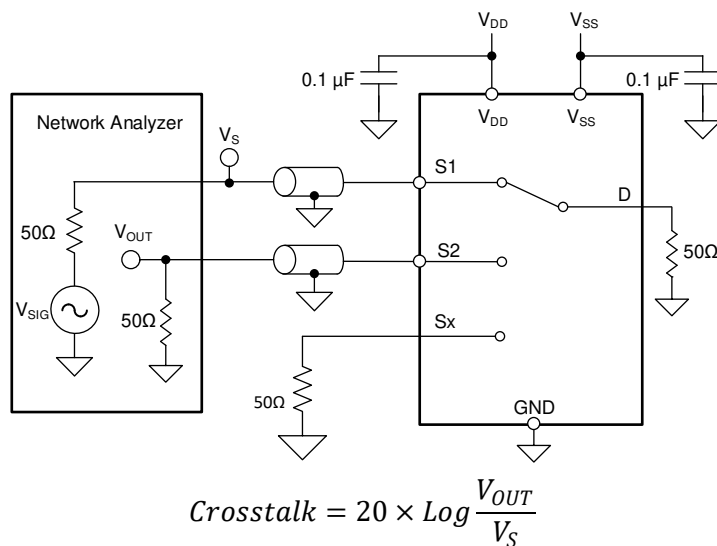

Figure 7-11. Crosstalk Measurement Setup
Crosstalk is defined as the ratio of the signal at the drain pin (D) of a different channel, when a signal is applied at the source pin (Sx) of an on-channel. Figure 7-11 shows the setup used to measure and the equation used to calculate crosstalk.